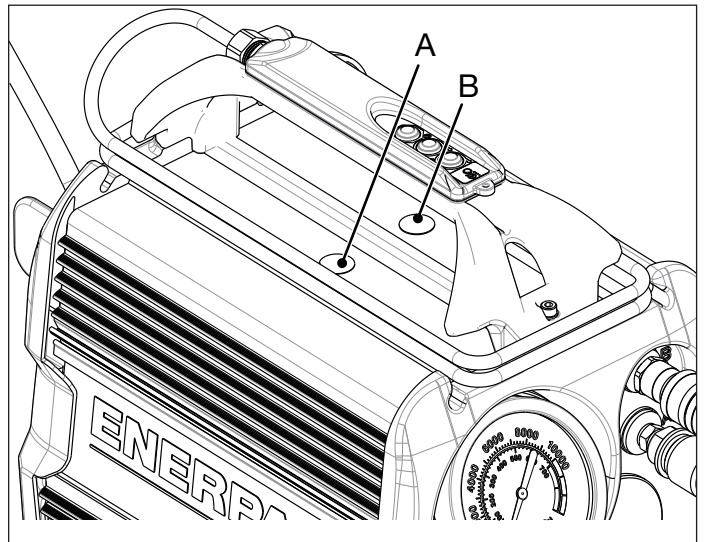

Figure 1, Locations of Safety Hazard Alert Symbols
**Read instructions:** Read the product instruction sheet before operating the product and before performing any inspection, adjustment, maintenance or repair procedures. (Figure 1, Item A)
**Disconnect Electrical Power:** To avoid the possibility of a dangerous and potentially lethal electrical shock, disconnect pump power cord from AC electrical power supply and wait at least 2 minutes before opening the pump case. (Figure 1, Item B)
Make sure the safety hazard alert symbols are legible and securely affixed to the pump. If worn or missing, obtain replacements from Enerpac. Refer to Figure 1 for locations.